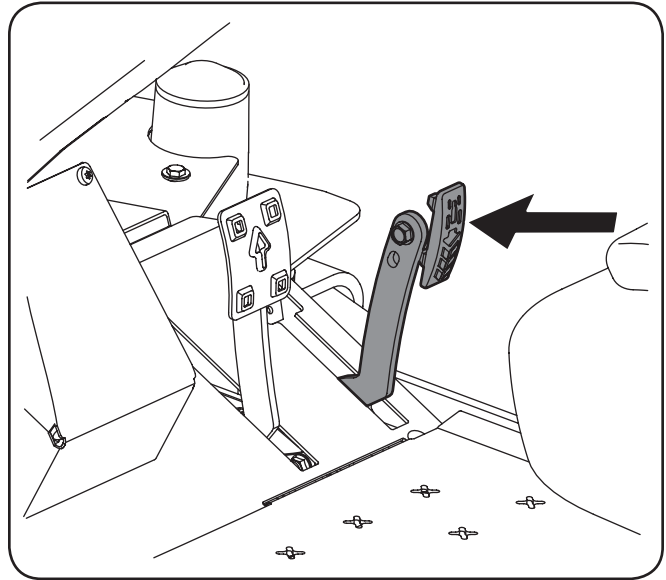

Figure 5-2
1. Slowly push the reverse drive pedal forward. The tractor will start to move in the reverse direction. See Figure 5-2.